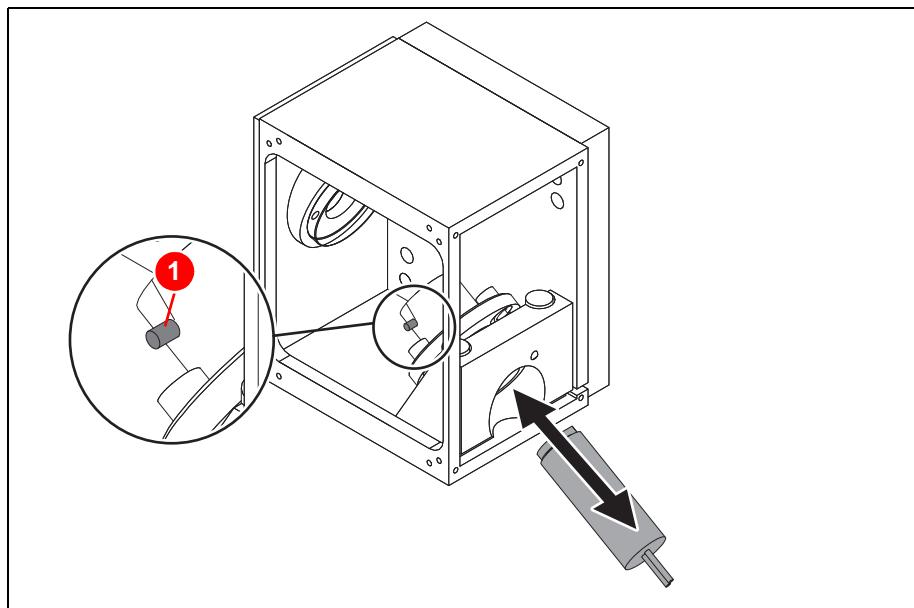

Figure 3.30 Positioning laser – 4
8. Carefully withdraw the alignment laser after loosening the headless screw (1) (Figure 3.30).